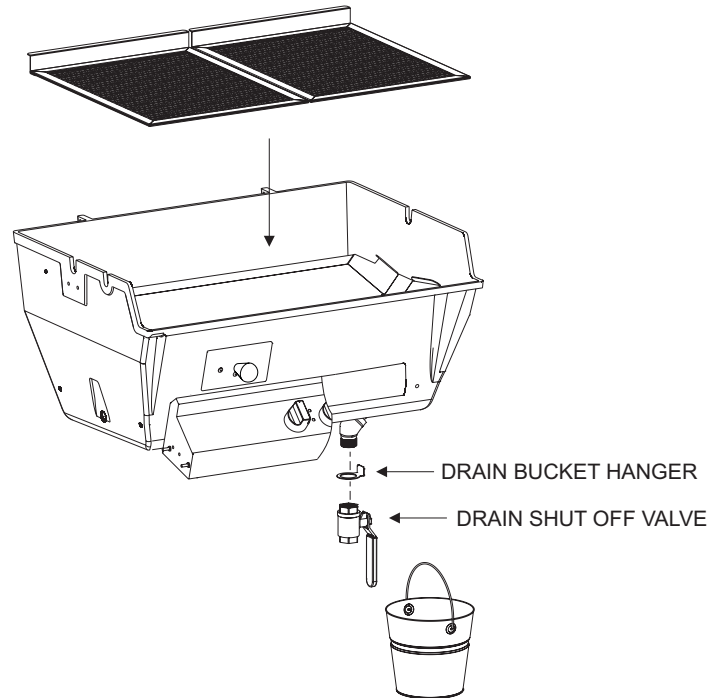

Figure 24
1. Lower the drain pan into the lower casting with the drain pipe on the right side. Pass the pipe through the oval hole in the bottom of the casting, making sure the pipe extends out through the bottom of the casting and the pan is sitting level on the holding tabs. **See Figure 24.**